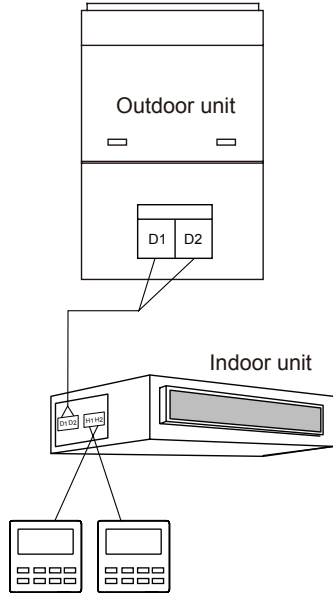

Fig. 3.4 Two wired controllers control one indoor unit
- (1) When one wired controller controls multiple indoor units simultaneously, the wired controller can connect to any one indoor unit, but the connected indoor unit must be the same series indoor unit. The total quantity of indoor unit controlled by wired controller can't exceed 16 sets, and the connected indoor unit must be within the same indoor unit's network.
- (2) When two wired controllers control one indoor unit, the addresses of those two wired controllers should be different. Please refer to 3.2.3 parameter setting.
- (3) When two wired controllers control multiple indoor units, wired controller can be connected to any one indoor unit, while the connected indoor unit should be the same series indoor unit. The addresses of those two wired controllers should be different. Please refer to 3.2.3 parameter setting. The total quantity of indoor unit controlled by wired controller can't be more than 16 sets and all connected indoor units must be within the same indoor unit network.
- (4) When one (or two) wired controller(s) control(s) multiple indoor units at the same time, the controlled indoor unit's setting should be the same.
- (5) Wiring of wired controller and indoor unit network must be according to one of the four wiring methods as shown in fig 3.3-3.6. As for the connection method shown in fig 3.4 and 3.6, there should be only one master wired controller (address is 01) and one slave wired controller (address 02). The quantity of wired controller can't exceed two.